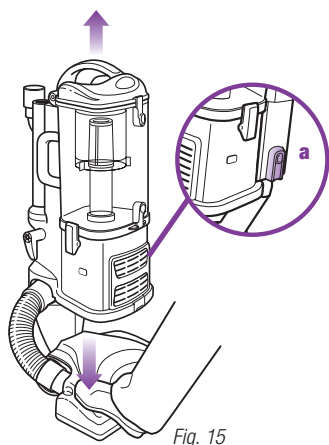

Fig. 15
- 1 Separate the portable Lift-Away® canister from the floor nozzle by pressing the red release button (a) on the side of the canister. Gently hold the nozzle to the floor with your foot and pull the canister up. (Fig. 15)